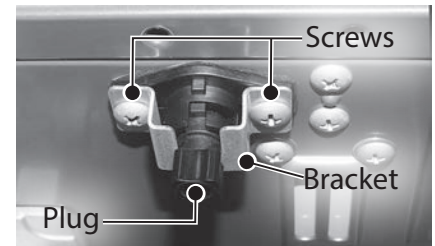

Figure 203 - HEX drain assembly
11 Locate the heat exchanger (HEX) drain line underneath the water heater. See Figure 203. Remove the two screws securing the metal bracket and place them aside in a safe place for reinstallation.
- 16 Locate the HEX drain connected to the drain tube in the water heater (bottom left side). Remove spring clip securing HEX drain to drain tube and place it aside in a safe place for reinstallation. See Figure 203.